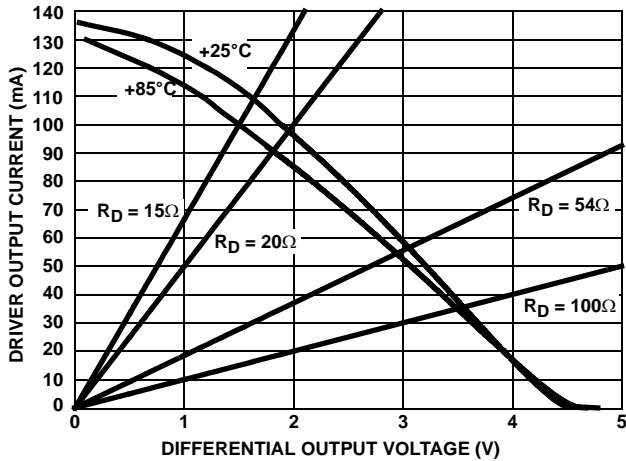

FIGURE 8. DRIVER OUTPUT CURRENT vs DIFFERENTIAL OUTPUT VOLTAGE
- See Figure 8 for more information, and for performance over temperature.
Another advantage of the large V_{OD} is the ability to drive more than two bus terminations, which allows for utilizing the ISL315XE in "star" and other multi-terminated, "non-standard" network topologies. Figure 8, details the transmitter's V_{OD} vs. I_{OUT} characteristic, and includes load lines for six (20Ω) and eight (15Ω) 120Ω terminations. The figure shows that the driver typically delivers 1.65/1.5V into 6/8 terminations, even at the worst case temperature of +85°C. The RS-485 standard requires a minimum 1.5V V_{OD} into two terminations, but the ISL315XE delivers RS-485 voltage levels with 3X to 4X the number of terminations.